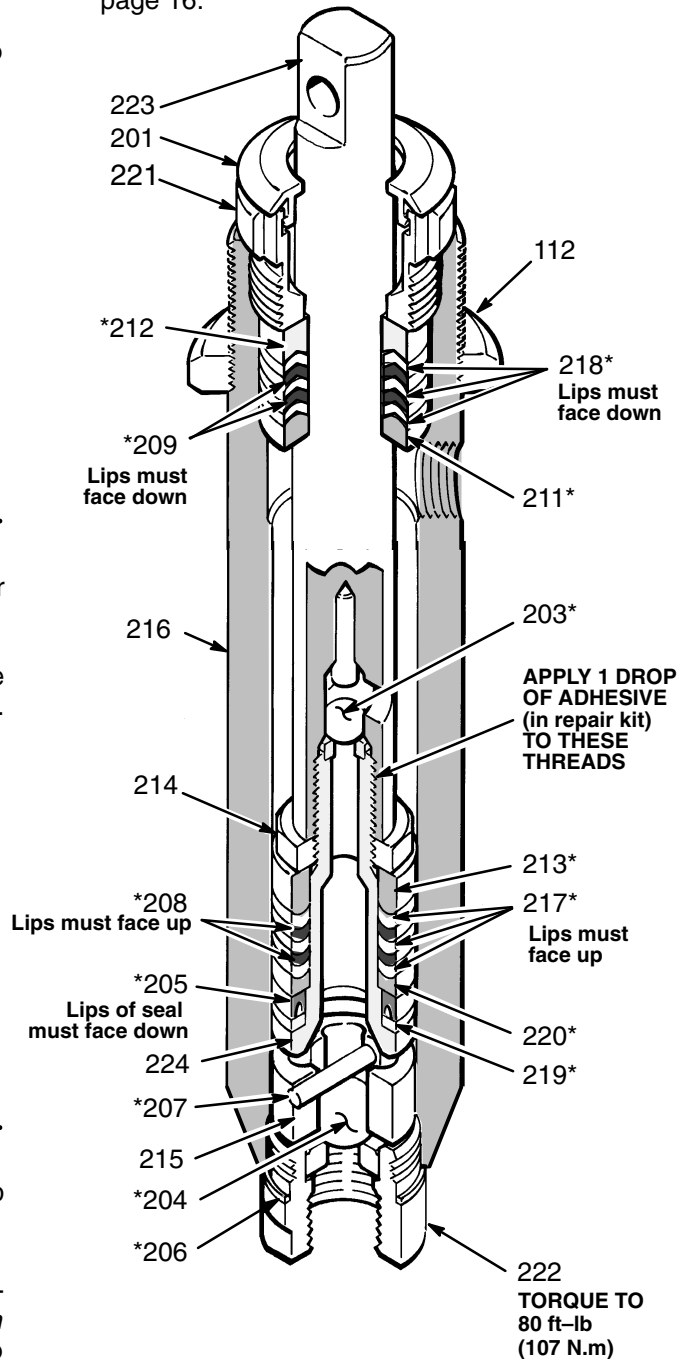

Fig 15
Disassembly. See Fig 15, except where noted.
- B. Clean all parts thoroughly. Check the outside of the piston rod (223) and the inside of the cylinder (216) for scoring or scratches, which prevent the packings from sealing properly. Replace all worn parts.
- C. Alternate polyethylene and leather packings as shown in Fig 15, starting with the polyethylene packings. Notice that:
- the lips of the U-cup seal (205) face down.
1. Stack the backup washer (219*), U-cup seal (205*) *lips down*, and female gland (220*), alternate the polyethylene and leather v-packings (217*, 218*) *lips up*, and stack the male gland (213*) one at a time onto the piston valve (224). See Fig 15.
5. Stack the male gland (211*), alternate the polyethylene and leather v-packings (218*, 209*) *lips down* and stack the female gland (212*) one at a time into the top of the cylinder. See Fig 15.
6. Loosely install the packing nut (221) and plug (201).
7. Insert the oiled piston rod (223) into the bottom of the cylinder.
8. Assemble the intake valve. Use a new gasket (206*). Screw the valve into the cylinder and tighten to 80 ft-lb (107 N.m). See Fig 15.
9. Screw down the cylinder locknut (112) until it is finger tight at the bottom of the external cylinder threads. See Fig 15.